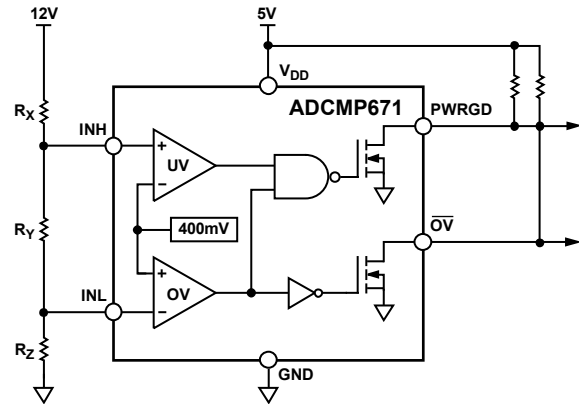

Figure 34. Undervoltage/Overvoltage Monitoring Configuration
Figure 34 illustrates the voltage monitoring input connection. Three external resistors, RX, RY, and RZ, divide the positive voltage for monitoring (VM) into the high-side voltage (VH) and low-side voltage (VL). The high-side voltage is connected to the INH pin, and the low-side voltage is connected to the INL pin.